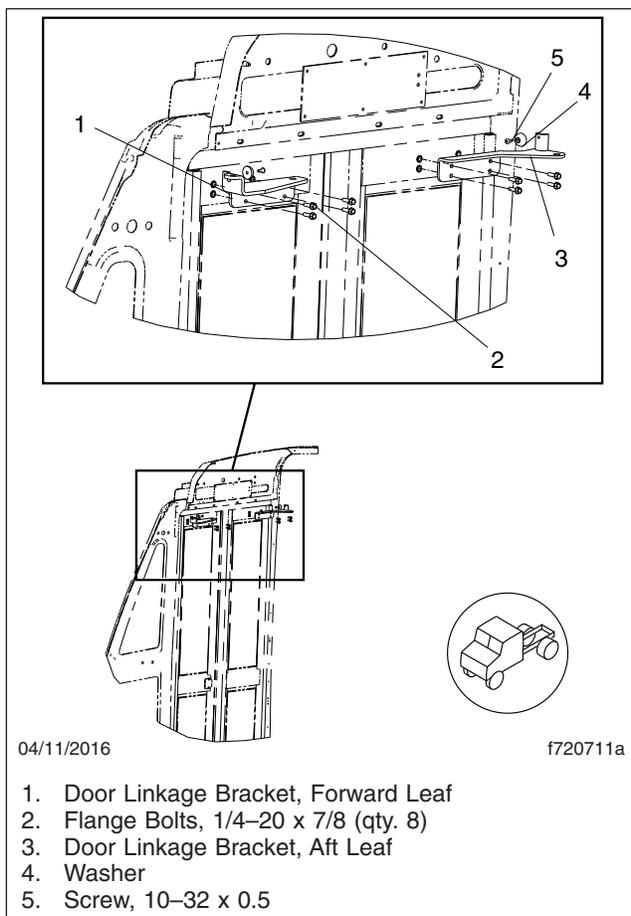

Fig. 1, Tightening the Flange Bolts
1. Tighten the flange bolts 12 lbf-ft (16 N·m) on the forward and aft leaf brackets. See Fig. 1.